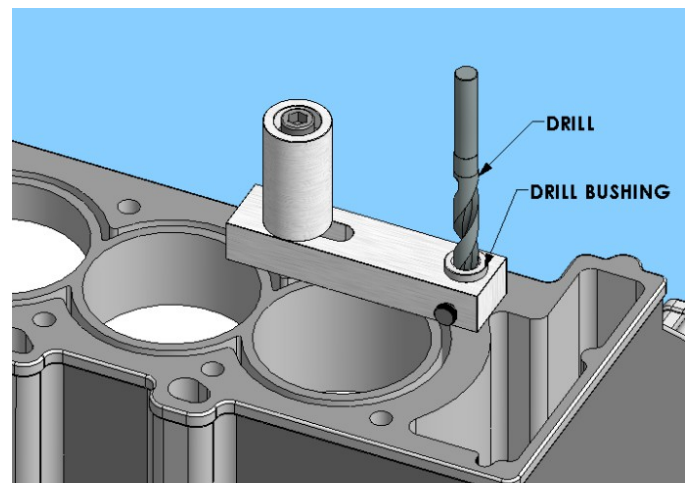

FIGURE 2A
3. **Figure 2A-** Drill the holes using the 17/32" Drill Bit that comes in the kit. Use light penetrating oil to keep the drill lubricated. Retract the drill several times to help clear the chips from the Drill Bits flutes. After you have drilled about 2" deep, you can remove the Drill Bushing from the Jig, then drill the remainder of the hole without it. This will allow for more chip clearance. Drill to the same depth as the original holes. Do not force the drill after it reaches the bottom of the original hole.